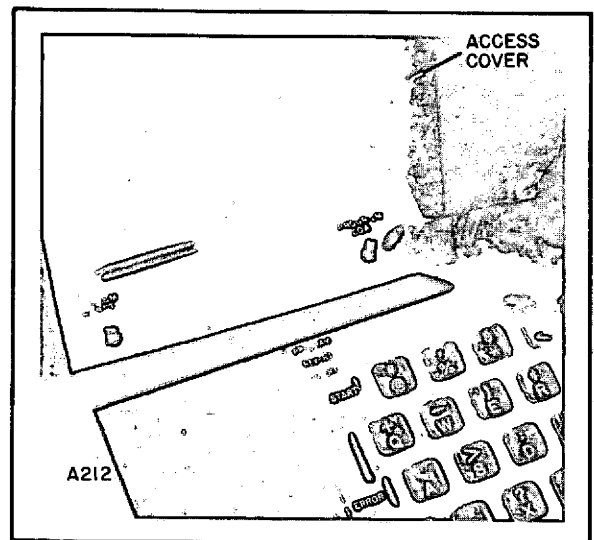

Fig. 2-2. Location of the Switch Well
- b. A well beneath the display screen houses the PROGRAM LOAD/Program Interrupt and the SYSTEM RESET switches, which are shown in figure 2-2.